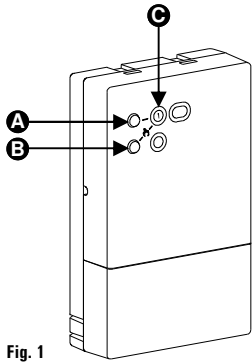

Fig. 1
LED (C in Fig. 1)
SELF-LEARNING BUTTON (A in Fig. 1)
MANUAL DRIVE BUTTON (B in Fig. 1)
- Switch on the receiver: the LED (C) blinks for a few seconds during the initialisation phase.
- Press the self-learning button for a second (A) of Fig.1. The self-learning procedure is started: the receiver's LED will blink quickly yellow.